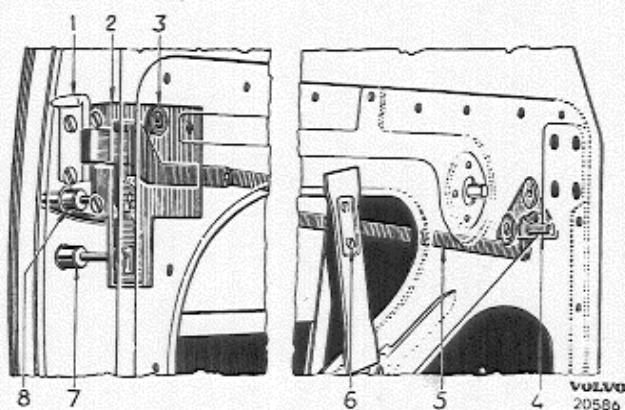

Fig. 38. Door lock
5. Loosen the screws holding the lock (2, Fig. 38), the guides (6) for the link (5) and the remote control (4). Lift out the door lock in a downwards direction.